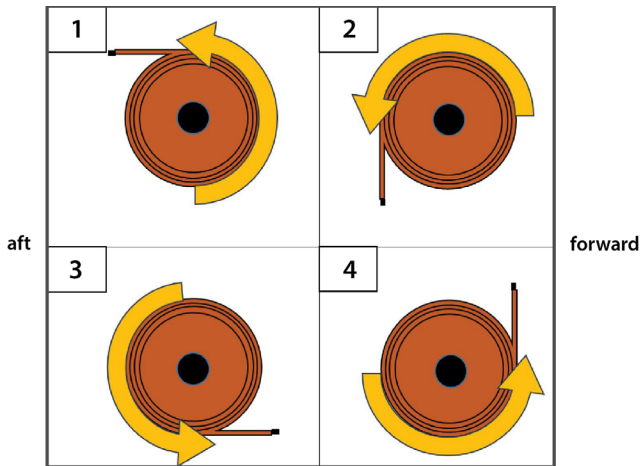

Fig.23
**B.** Grip and rotate the roller and canvas towards you and towards crossbars (Fig.22A). You will begin to feel the tension of the roller after about 3 to 4 full rotations (Fig.23). Continue as needed until canvas is taut.